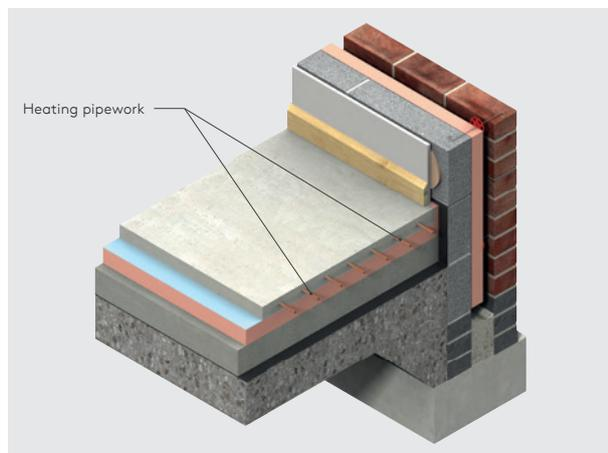
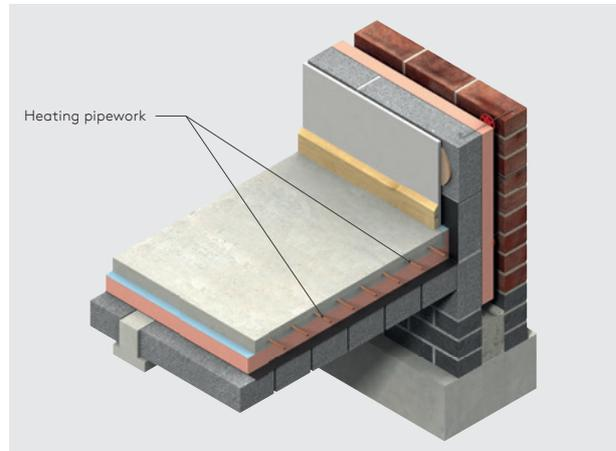

Figure 9: Intermittent Heating Applications - Below the Floor Screed
Figure 10: Intermittent Heating Applications - Beam and Block Floor
- In order to minimise cold bridging at the edge of the floor, the distance between the top surface of the floor insulation or perimeter insulation upstand, and the bottom of the wall insulation must be a minimum of 150 mm (see Figures 1 & 2) for a concrete floor and 200 mm for a suspended timber floor (see Figure 9). The further down the wall insulation extends past the floor insulation, the better the thermal performance of the junction between the wall and the floor.
For intermittent heating applications, where a fast response time is required, it is beneficial to have less thermal mass available to take up heat from the system and so placing the insulation layer below the screed but above the concrete slab (Figure 9) or beam and block floor (Figure 10) is the best solution.